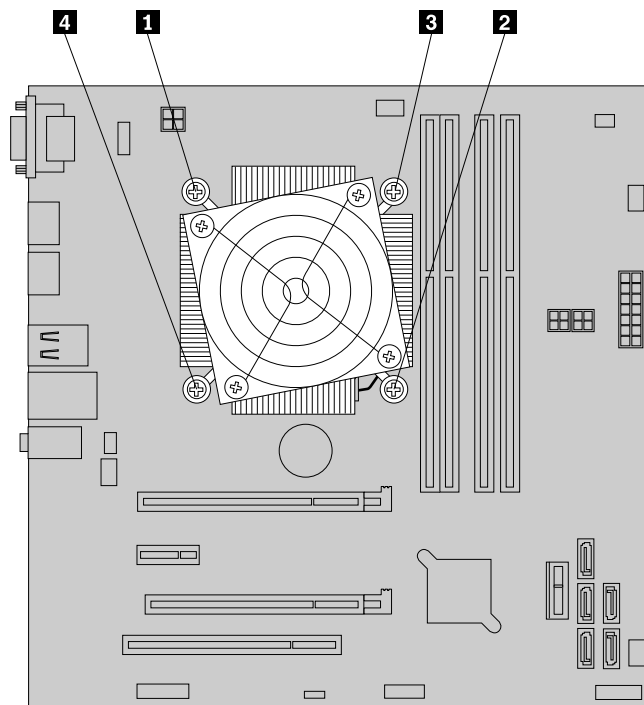

Figure 53. Removing the heat sink and fan assembly
9. Follow this sequence to install the four screws to secure the new heat sink and fan assembly. See Figure 53 “Removing the heat sink and fan assembly” on page 70.